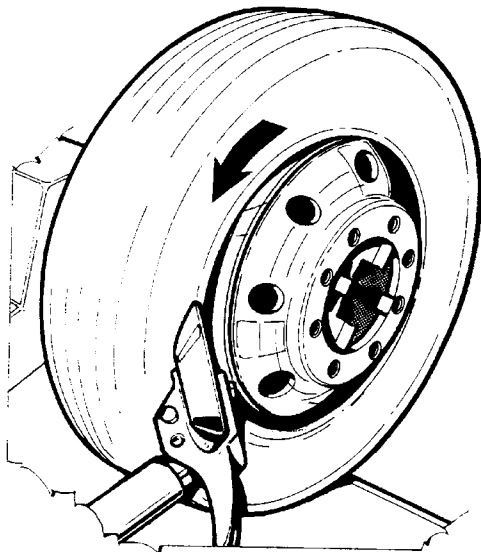
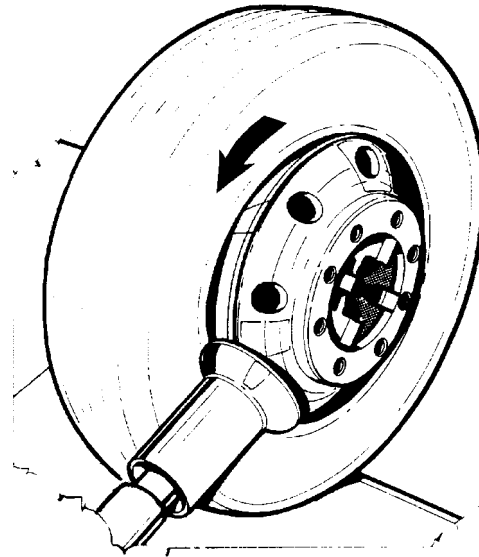

Fig.19
Fig.20
2. Position the bead loosener disc or tubeless roller (option) as shown in fig.19, fig.20.